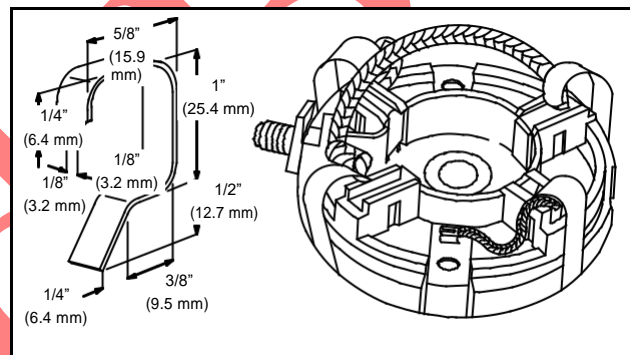
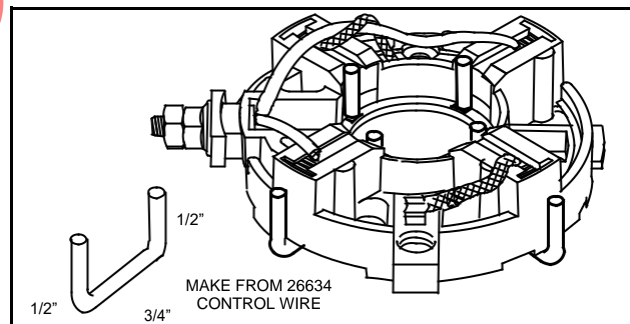

Fig. 32 – Compression Spring Type Brush Holders
Fig. 33 – Compression Spring Type Brush Holders
On end caps with compression type springs, insert brushes in their proper holders, Fig. 32 and Fig. 33. A brush retainer should be used to hold brushes clear of armature commutator.
4. Brush retainers can be made from scrap pieces of rewind starter springs as shown in Fig. 32 or Part No. 26634 control wire or similar material, Fig. 33.